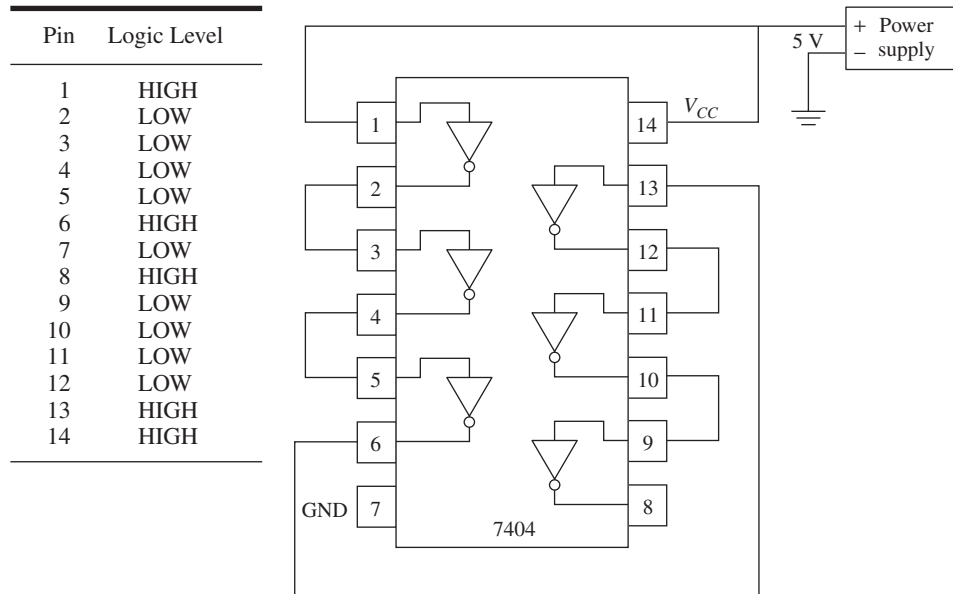

Figure P44
- T** 44. The following data table was built by putting a logic probe on every pin of the hex inverter shown in Figure P44. Are there any problems with the chip? If so, which gate(s) are bad?